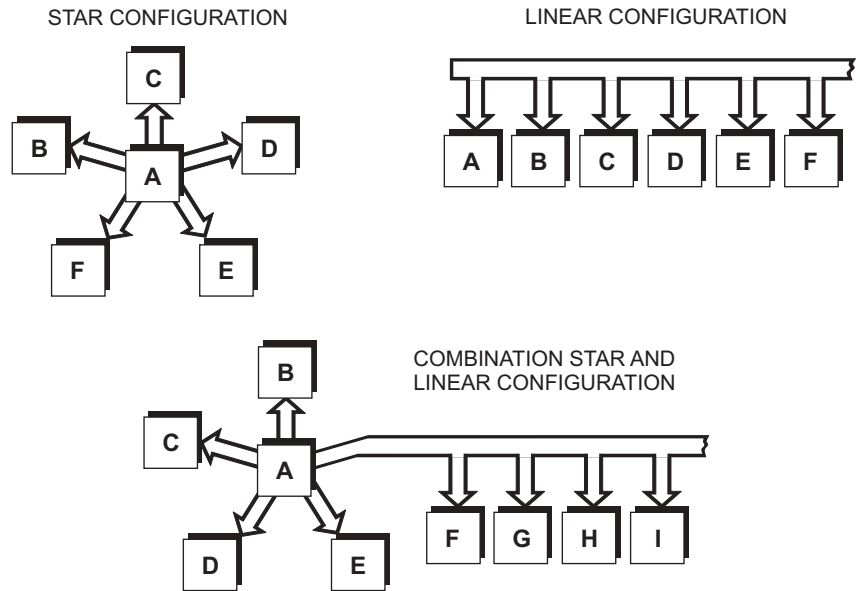

Figure 27. GPIB devices may be connected in star, linear, or combination star/linear configurations.
- Devices may be connected in a star or linear configuration (see Figure 27), or a combination of star and linear configurations.